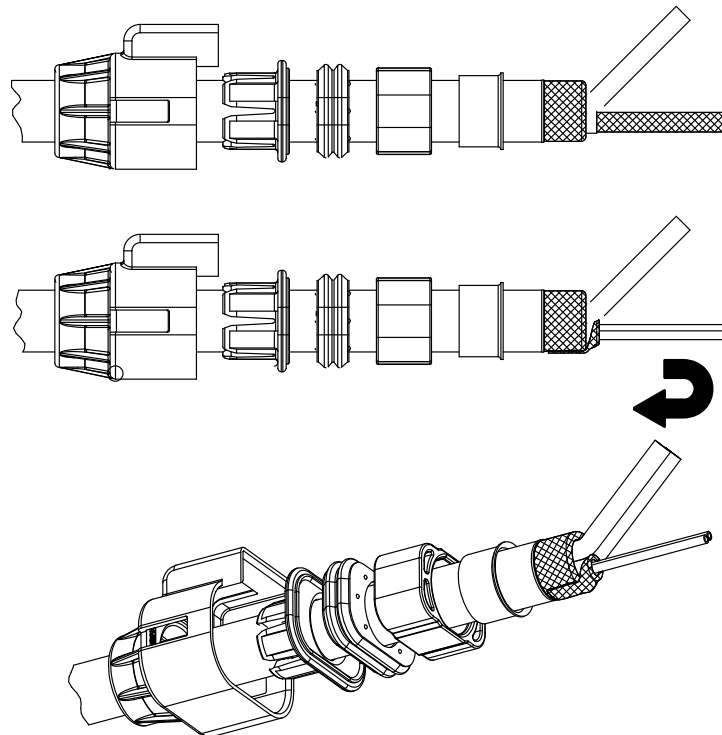

Figure 8
6. If present, fold the HVIL braided shield back over the inner ferrule and trim as shown in Figure 8.